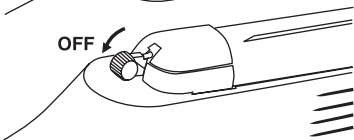

Fig 2
- To remove the safety to 'OFF', pull safety button downwards. In this position, the gun is ready to shoot. (Fig. 2)